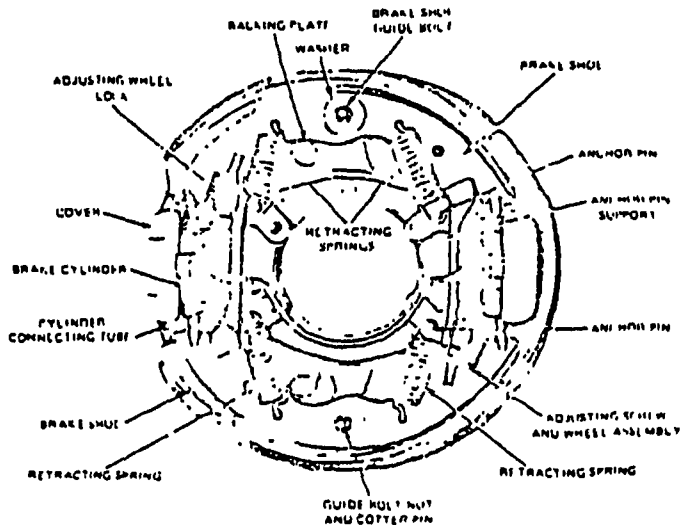

FIG. 4 Two Cylinder Brake—Rear—P-300
3. Place the brake shoe against the backing plate, insert the ends in the brake cylinder links, and install the shoe guide bolt, washer, and nut (Fig. 4). Finger tighten the nut, then loosen it one full turn and install the cotter pin.